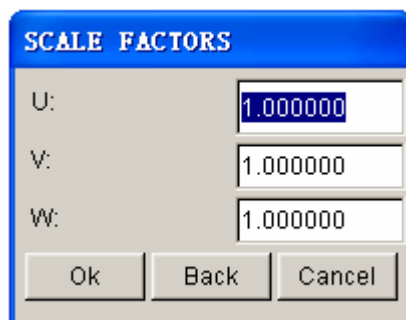

Figure 5.1.14 Scale Factor dialog box
- Enter the desired scale factors in the input fields in the SCALE FACTOR dialog box as illustrated in Figure 5.1.14.